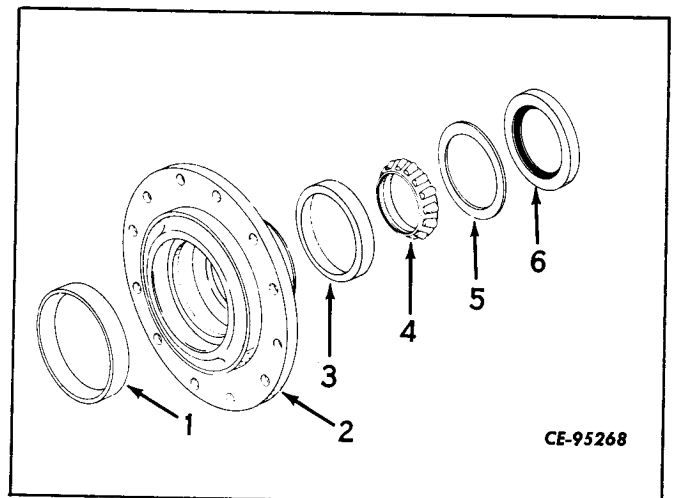

Figure 6-79
Remove the seal (6, Fig. 6-79) and spacer (5) from the hub. Discard the oil seal.
If bearing cups (1, 3, Fig. 6-79) were removed from the hub (2), press new cups in the hub. Lubricate the bearing cone (4) with new axle lubricant (refer to "LUBRICANTS AND CAPACITIES" under "SERVICE INFORMATION") and install it in the bearing cup (3) in the hub.